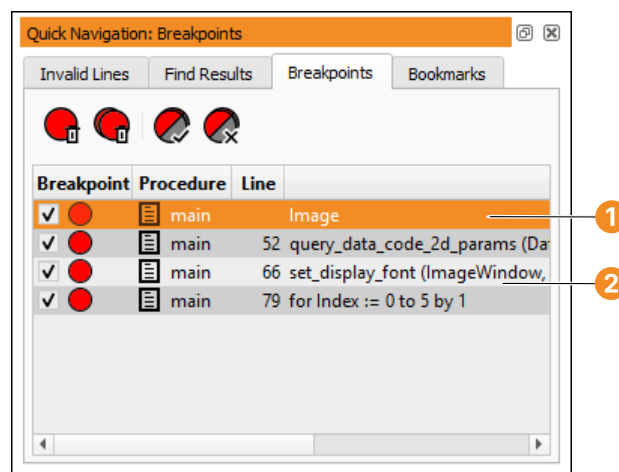

Figure 6.72: Managing breakpoints in the Quick Navigation window.
This tab card lists all variables or program lines marked with a breakpoint (see figure 6.72). Information about the breakpoints is given in the column **Context**: Breakpoints on variables ❶ list the variable name, while line-based breakpoints ❷ list the program line (its line number is given in the column **Line**).